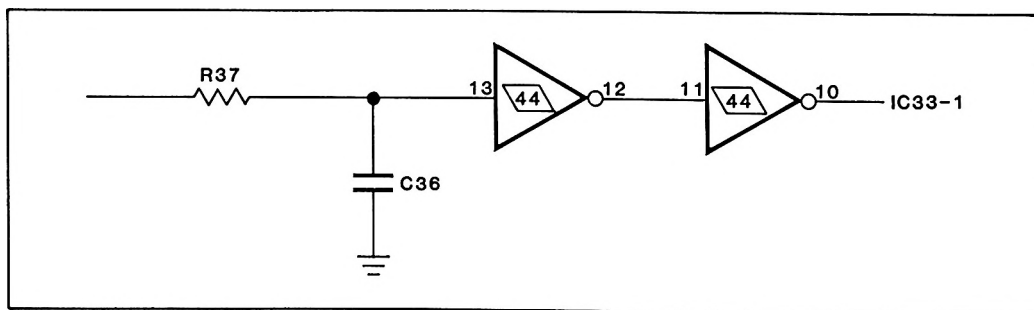

Figure 8
7. Add the following jumpers (Figure 8):